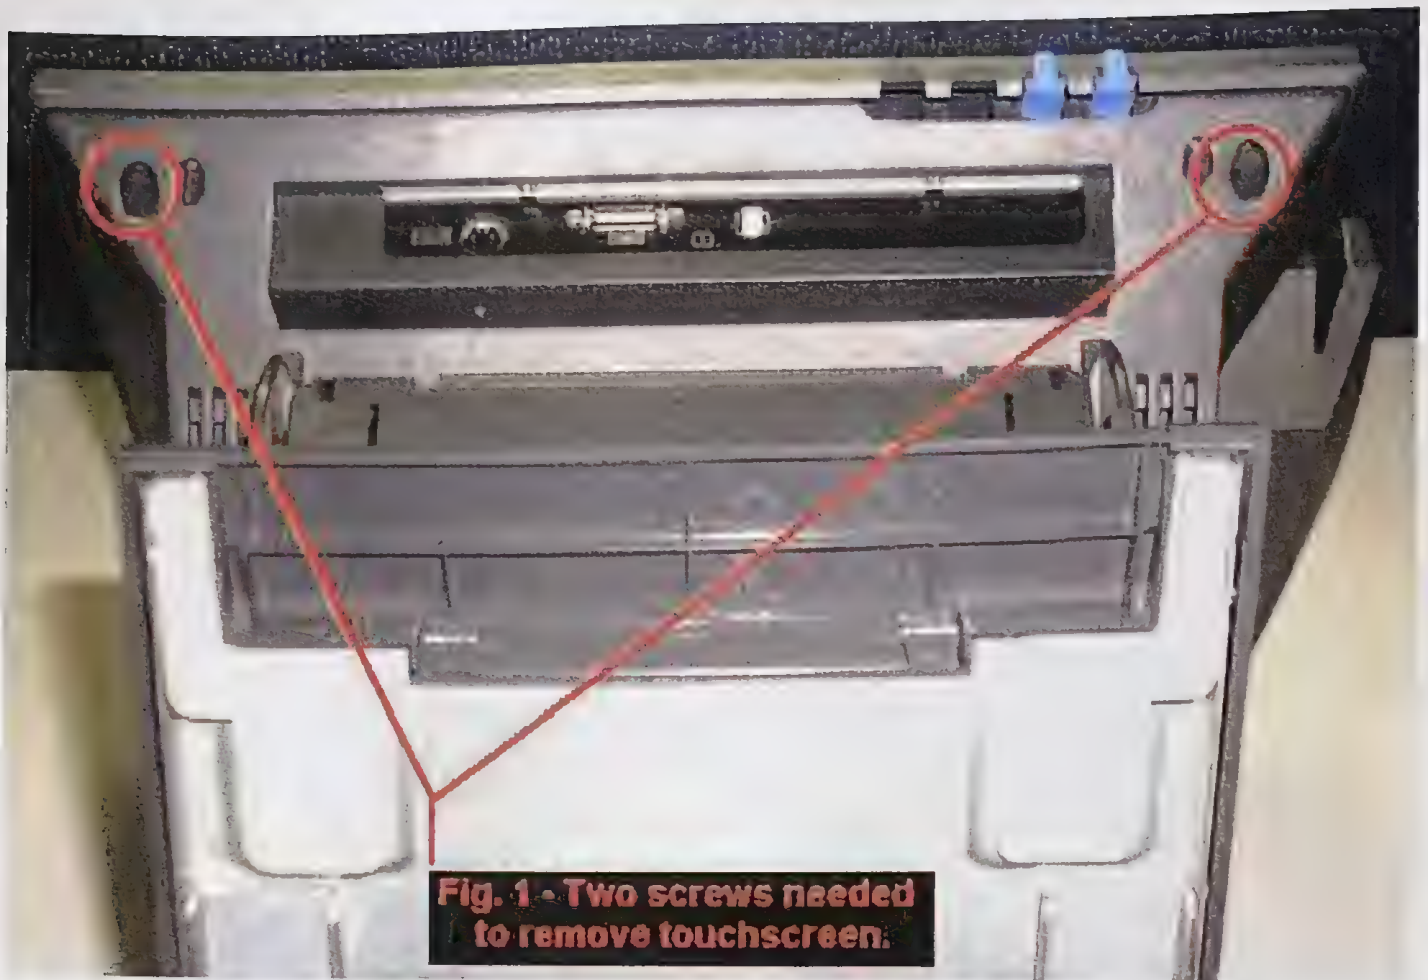

Fig. 1 - Two screws needed to remove touchscreen.
- 1) Tilt the screen as far back as it will go. Then place the register on its back and remove the screws from the touch screen as shown in Figure 1.